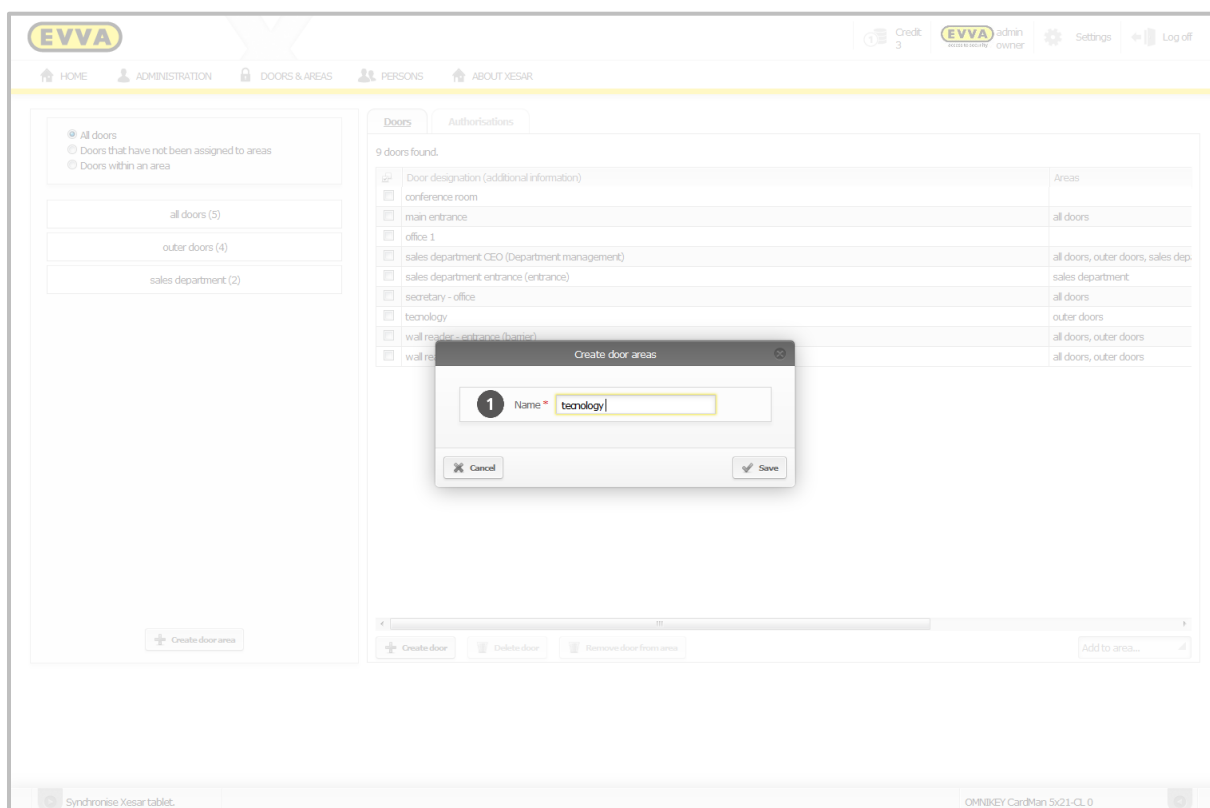

Figure 67: Creating new door areas
- Specify the **Name** of the door area ① (Figure 67: Creating new door areas).